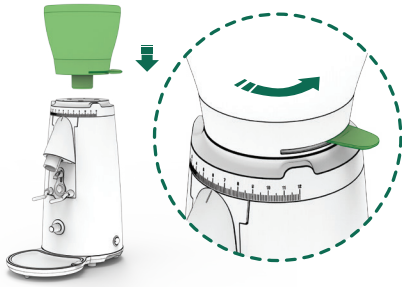

Fig. 1
Place the hopper (2) on the grind regulator (7) and make sure the bean trap (4) is in the closed position (Fig. 1).